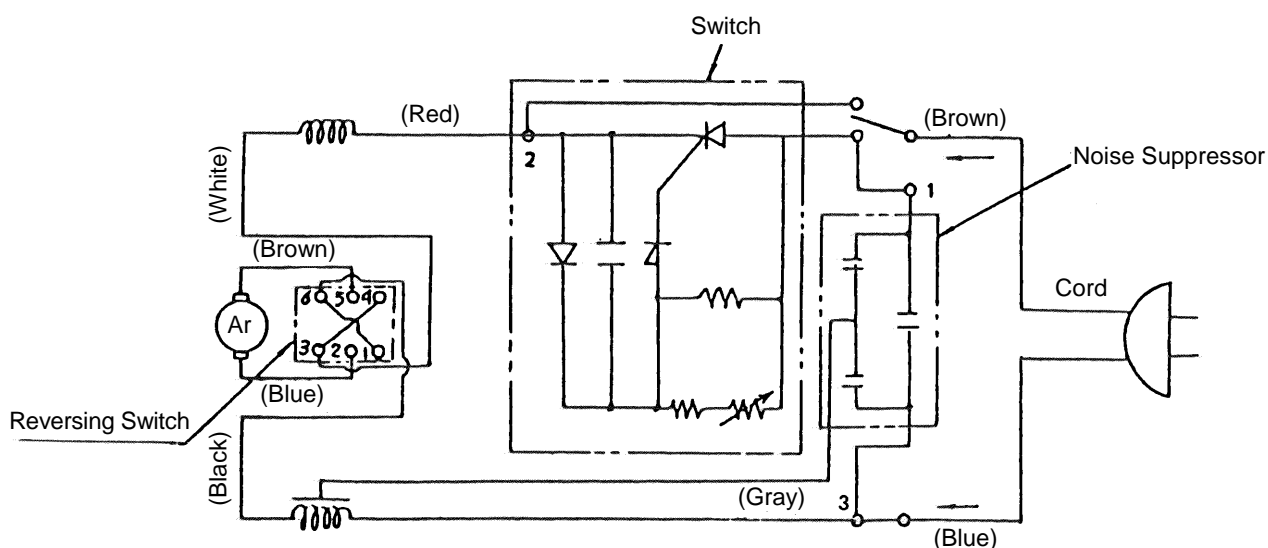

Fig. 7 Models FDV16VA and FDV20VA
1-2-6. Wiring Diagrams and Leadwire Arrangements (See Figs. 7 through 14):
- (1) Wiring diagrams are illustrated in Figs. 7 through 10.